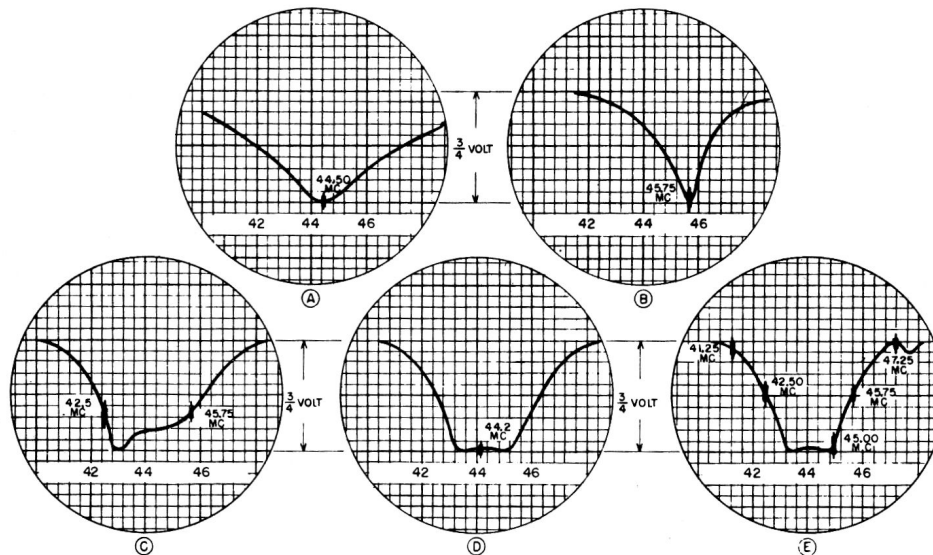

Fig. 21. Video I-F Curves
1. The sweep generator should be properly terminated in its characteristic impedance. Couple the signal to the input to give a video response curve of 3/4 volt as shown in Figure 21.
5. In general, it is only necessary to perform an over-all alignment of the video i-f, as in step 7 of the Video Alignment Chart, in order to obtain i-f response curve of Figure 21-E.
7. It is important that the 45.75 mc marker should fall at the 50% response point to give proper curve of Figure 21-E.
8. After adjustment of the two sound traps, readjust the i-f curve to obtain the proper response curve as illustrated in Figure 21-E.